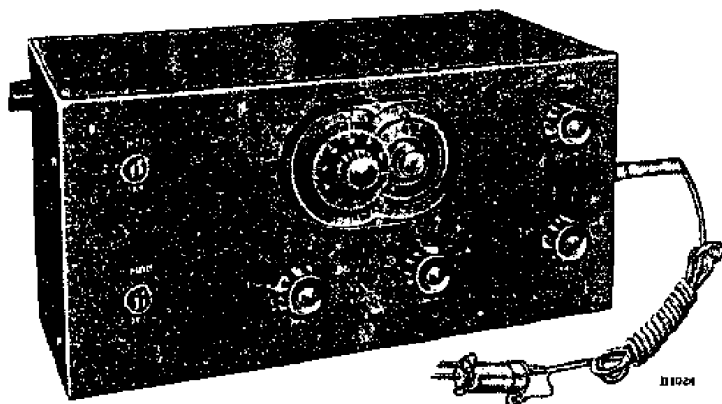

Fig. 1.
1. A service oscillator having wavebands covering the receiver, similar to Philips Service Signal Generator GM.2880 (see Fig. 1). Prices and particulars upon application from the Service Department.